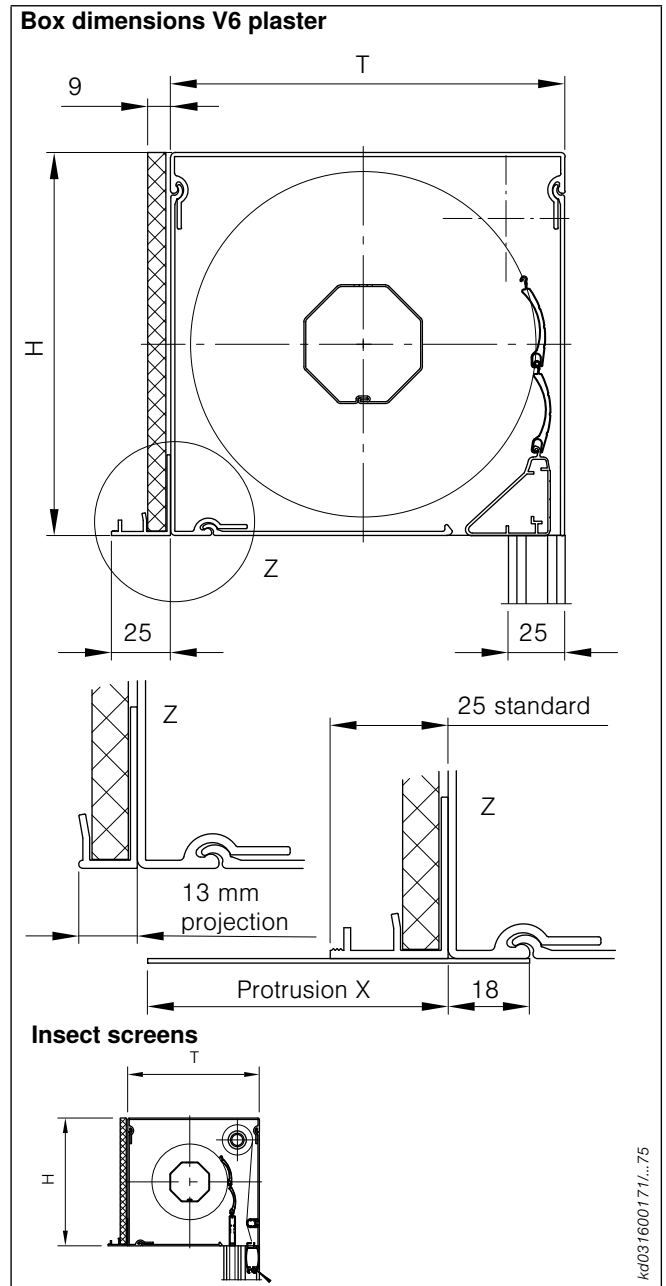

Fig. 14: Box dimensions V6 plaster
- for a composite thermal insulation system the distance of the plaster base profile should be set to 13 mm (see Fig. 14). Please indicate on the order.